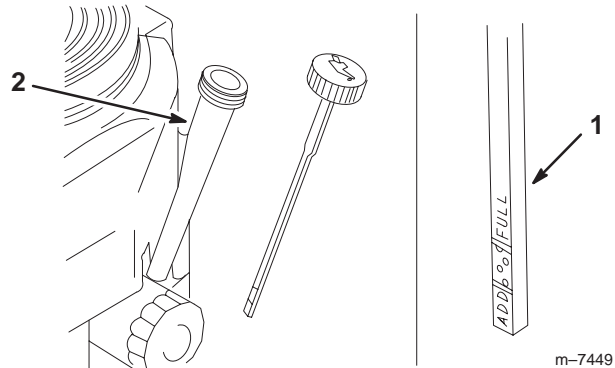

Figure 28
4. Clean around the oil dipstick (Fig. 28) so that dirt cannot fall into the filler hole and damage the engine.
5. Unscrew the oil dipstick and wipe the end clean (Fig. 28).
6. Slide the oil dipstick fully into the filler tube, **but do not thread onto tube** (Fig. 28).
9. Slowly pour approximately 80% of the specified oil (refer to Service Interval/Specification, page 28) into the filler cap (Fig. 28).